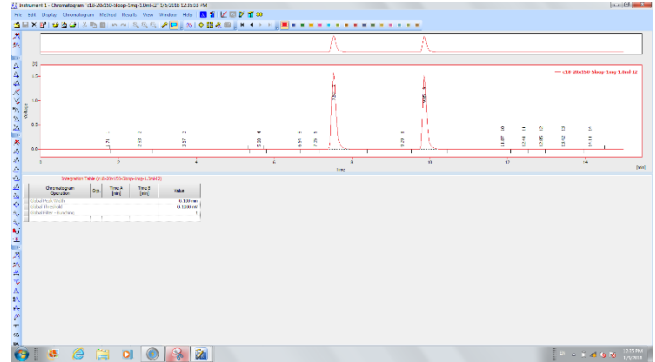

Figure 12: Integration screen
- You can change your integration parameters by going to METHOD and selecting INTEGRATION, which brings up the options shown in Figure 12.